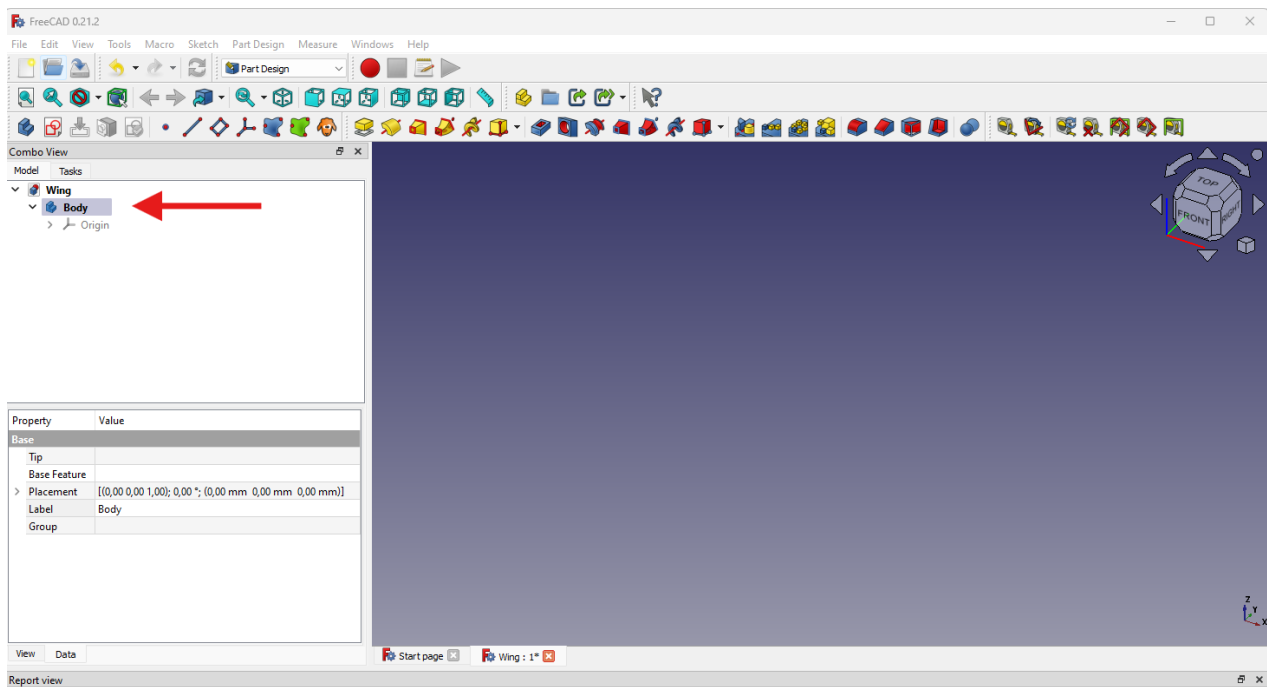

Figure 5: FreeCAD: Create a body
- In the **Model** tab, you can now see a new body as part of the **Wing** model (Figure 5).